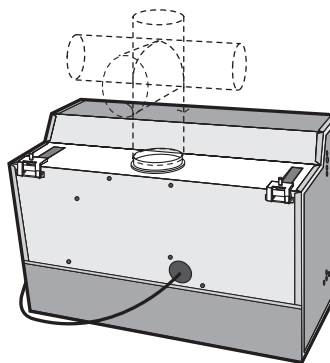

Fig. 2
- Depending on your installation the hose can be directed either towards the ceiling or towards the walls. **Fig. 2**.